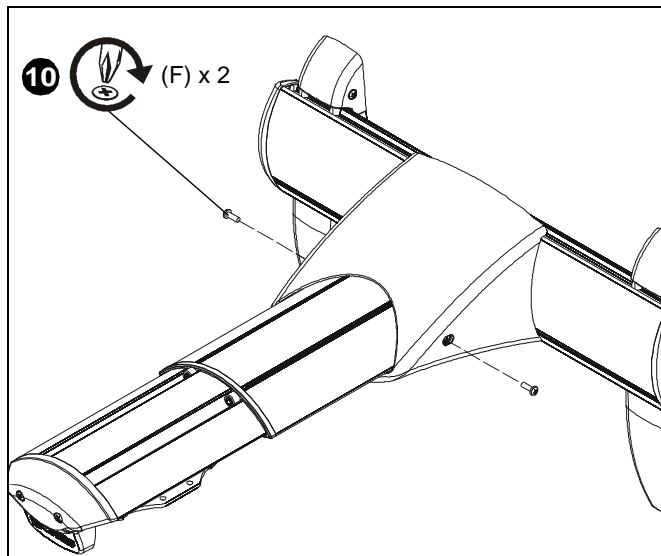

Figure 28
10. Reinstall two #8-32 x 1/2" Phillips pan machine screws (F) through holes on sides of outer cover. (See Figure 28)